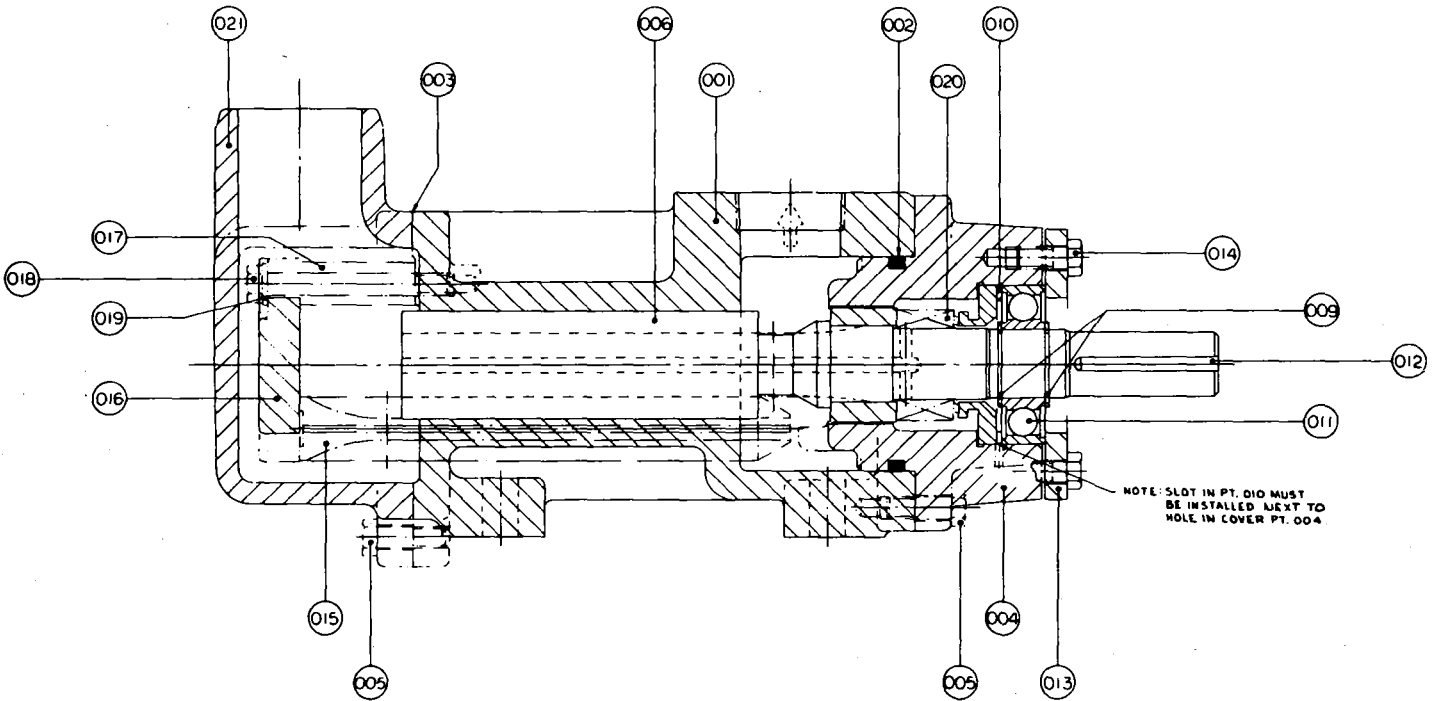

FIGURE 2. Pump Assembly Drawing SD-5625
6. Install gasket furnished with new mechanical seal flat in counterbore of cover (004). Install assembled power rotor into pump, centering each part as it enters cover (004) and ensuring that retaining ring (010) is properly positioned with slot down for drainage. (See note on Figure 2 drawing.)
7. Install retainer (013) using bolts (014). Torque bolts (014) to proper torque value listed in Table 1.
8. Install coupling key (012) and hub on power rotor (006). Install drive belts and check alignment. Prime pump to expel all air prior to starting.